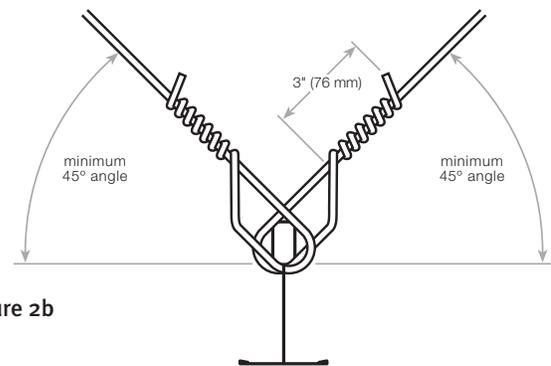

Figure 2b
- Terminal ends of each main beam and cross tee must be supported within 8 inches of each wall by a “perimeter” wire. See figures 2b and 3. (*CISCA zones 3-4*)